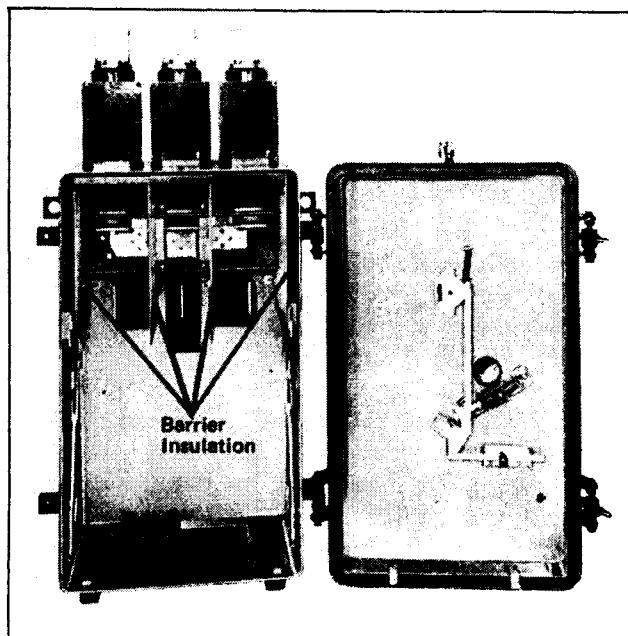

Fig. 3 CMD Network Protector Enclosure
**2.1.2.8** Barrier Insulation: The individual pole units assemblies in the upper module are separated by Red Glass-polyester barriers extending from the front to the back of the enclosure. These barriers reduce personnel exposure during maintenance and provide additional reliability when the protector is in service. See Fig. 3.